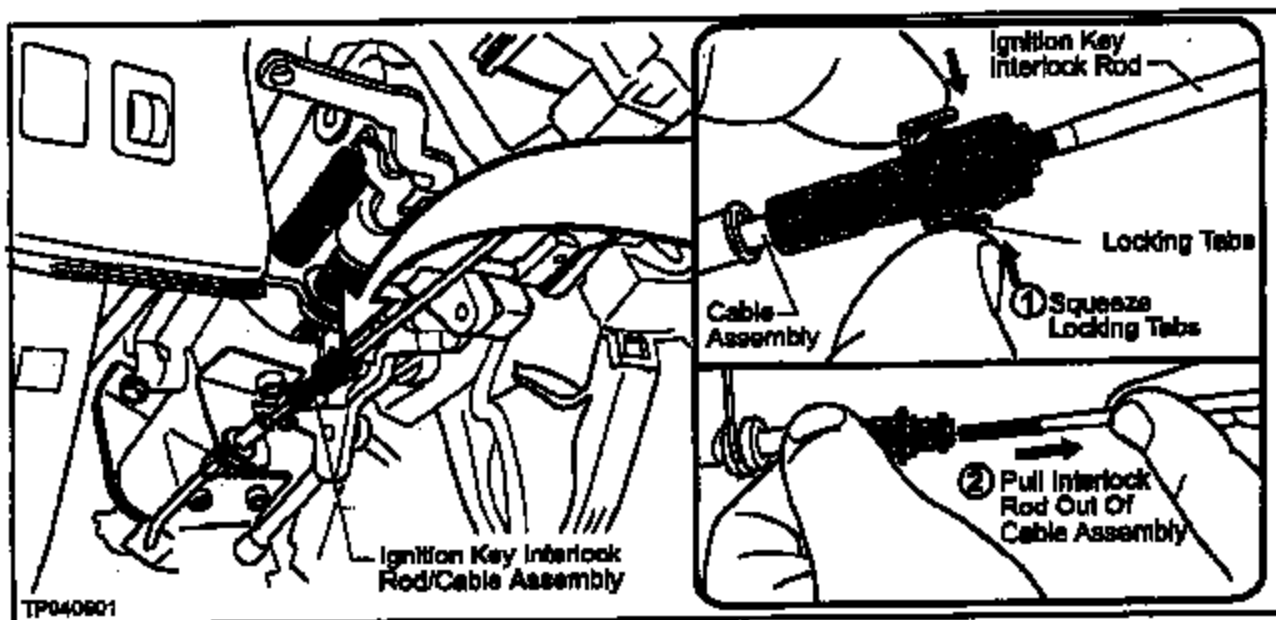

Figure 6
10. Disconnect the Ignition Key Interlock Rod from the Interlock Cable (see Figure 6).